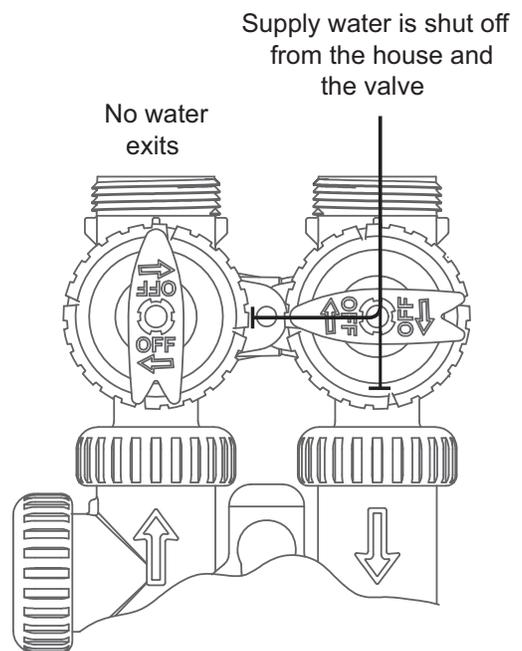

Figure 4 Shut Off Position
d. **Shut Off Position:** The inlet handle points to the center of the bypass valve and the outlet handle points away from the control valve. The water is shut off to the building. The water treatment system will depressurize upon opening a tap in the building. A negative pressure in the building combined with the softener being in regeneration could cause a siphoning of brine into the building. If water is available on the outlet side of the softener or filter it is an indication of water bypassing the system. Refer to Figure 4. (i.e. a plumbing cross-connection somewhere in the building).